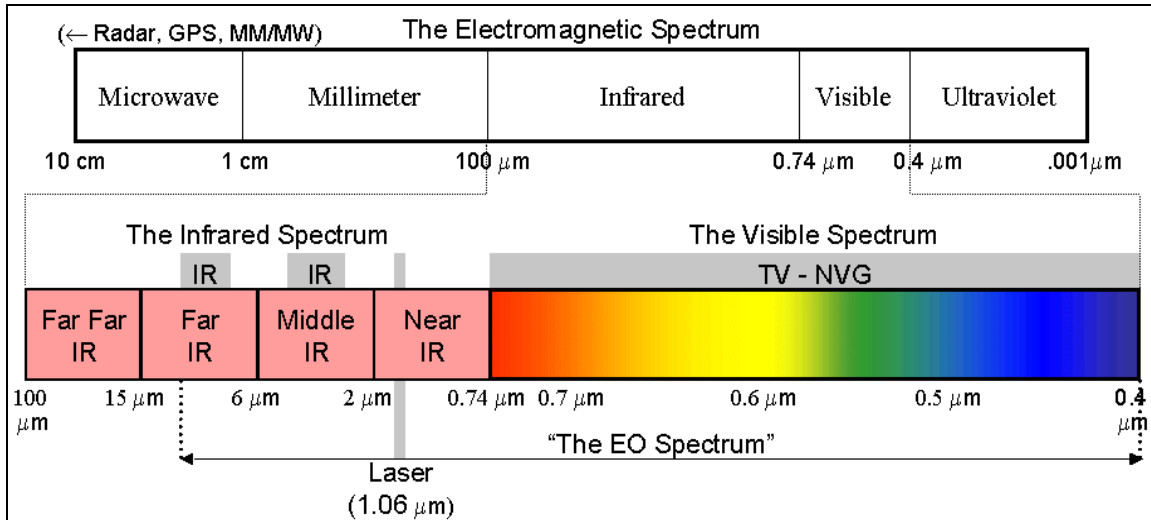

Figure 1 – VIS / NVG / FLIR EM spectrum
1. Electro-Optical sensor and systems operate in the optical radiation portion of the electromagnetic (EM) spectrum. This portion of the EM spectrum lies between 0.4 and 100 microns. Currently, most EO sensors supported by METOC operate in the 0.4 to 13 micron range (figure 1).